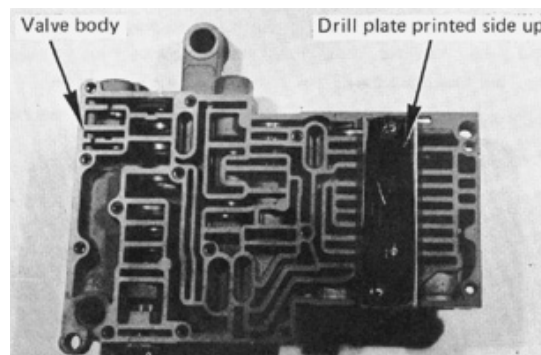
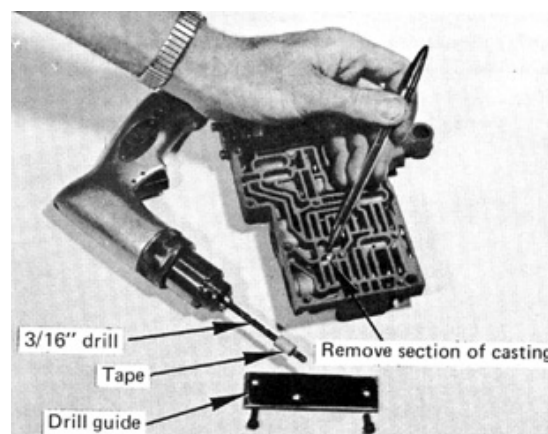
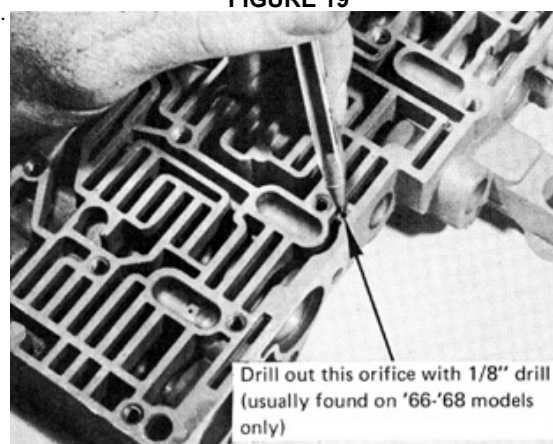

FIGURE 18
FIGURE 19
FIGURE 20
STEP 17. Drilling Main Casting: Install the special drill guide supplied with the kit in place on the casting as shown. (See Fig. 18.) Use two short screws to hold it in place in the end holes with the arrow pointing to you. The center hole is a drill guide to remove a section of the casting wall below it. Use a 3/16" drill supplied in the kit and wrap several layers of tape around the drill bit to act as a stop. You want 1/2" from the edge of the tape to the end of the drill. Use the gage to wrap the tape properly. (See Fig. 19.) Use a high speed drill motor and slowly drill down into the casting wall until the tape just touches the face of the drill guide. Drilling further will cause damage. Remove the drill guide to see if you have removed the wall separating two channels. The drill should have penetrated almost to the floor of the casting. Use solvent or gasoline to clean the casting and remove all chips that were created by drilling. If your casting has an orifice as shown in Figure 20, drill orifice out with furnished 1/8" drill. Be careful to drill out only the orifice and not rest of casting.